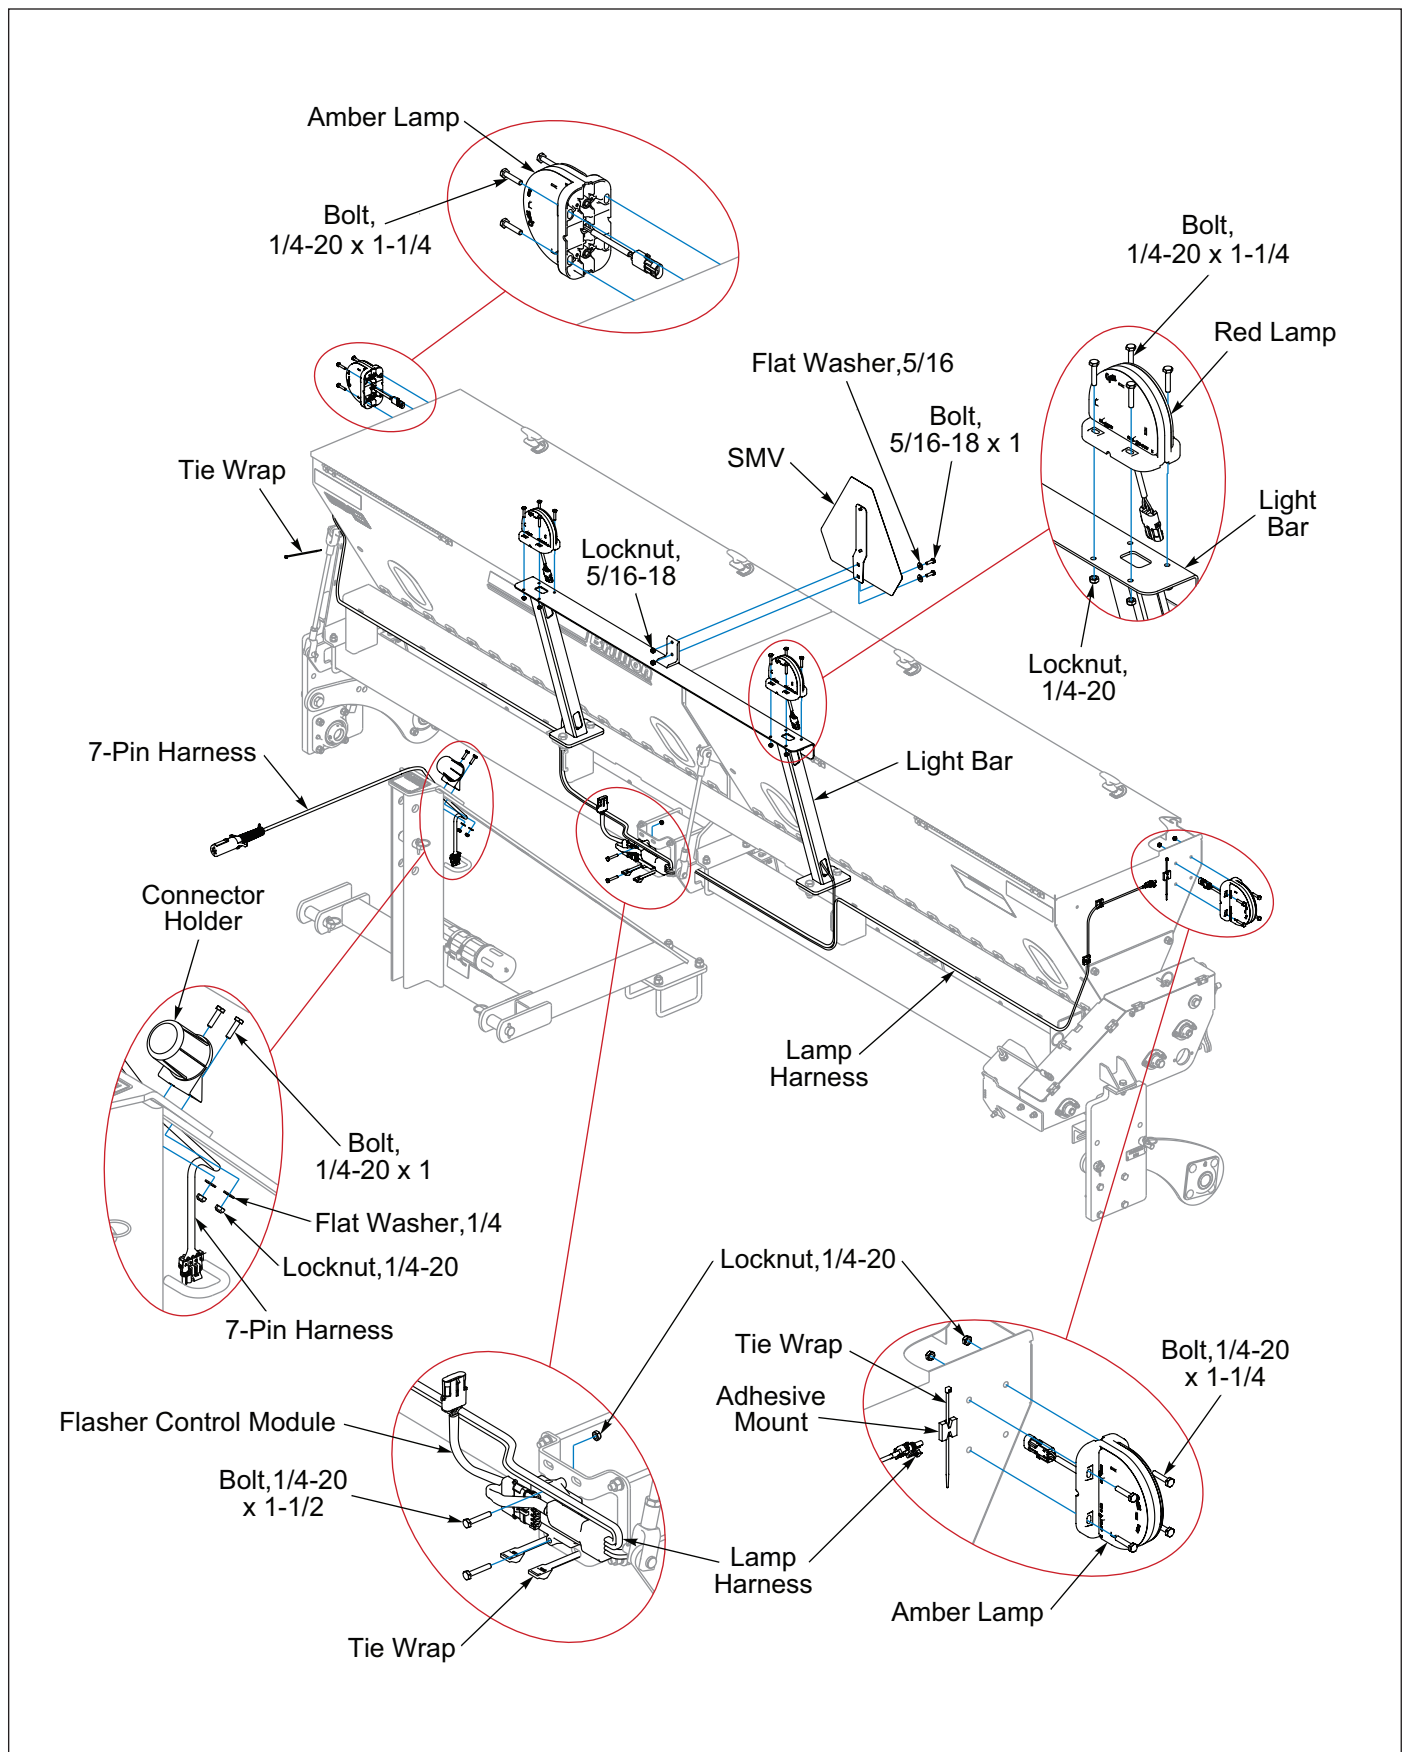

Figure 2-25: Warning Lamp Installation, 12FT (Before 06/2026)
1. Place a Red Lamp at each end of the Light Bar and insert the Red Lamp Cord into the Light Bar cutout. Secure Red Lamp to Light Bar with 1/4-20 X 1-1/4 Bolts and Locknuts. **See Figure 2-25.**